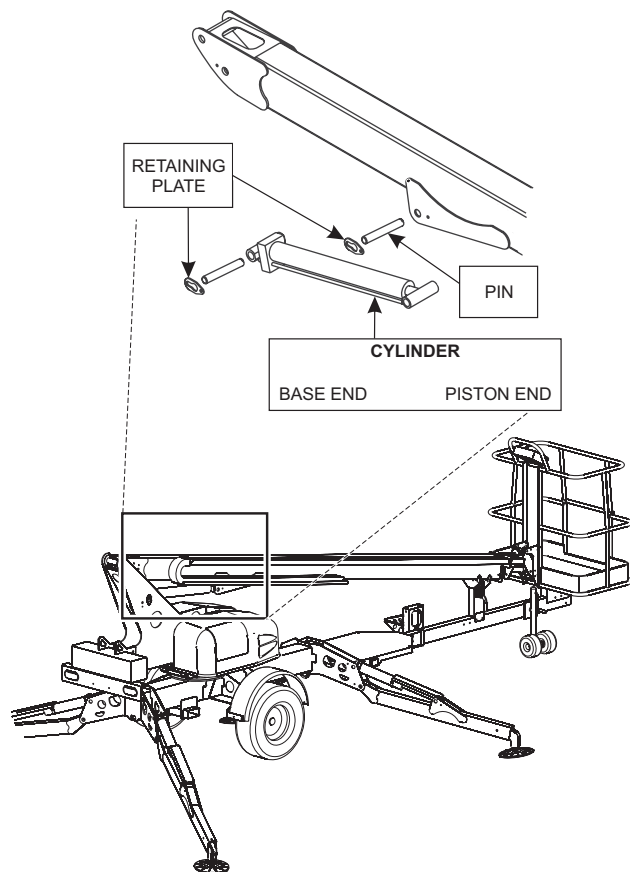

Figure 4-1. Lift Cylinder Replacement
- ❑ Locate the piston rod end of the cylinder to be removed (Figure 4-1). Unbolt and remove the retainer plate from each side of the pivot pin.